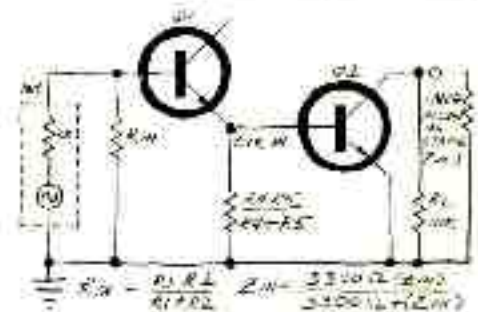

Fig. 7. Convert to equivalent at design.
• 6. To calculate the β values, outline the circuit showing all bypassed resistors as shorts to ground. The input impedance of the following stage as resistors (Fig. 7). Note that R_4 and R_2 is parallel here. R_4 , which is in parallel with Z_i of the emitter follower, to form the amplifier input impedance. Since the input impedance of the emitter follower is dependent on the input impedance of the common emitter, we must describe the latter from Fig. 4A. Since $I_b = 0.36$ mA and beta is 50, the input impedance is 3600 ohms. The latter is in parallel with R_4 and R_5 , the bias resistors. The parallel value of R_4 and R_5 is approximately 3800 ohms, which, in parallel with 3600, comes to about 2560 ohms.